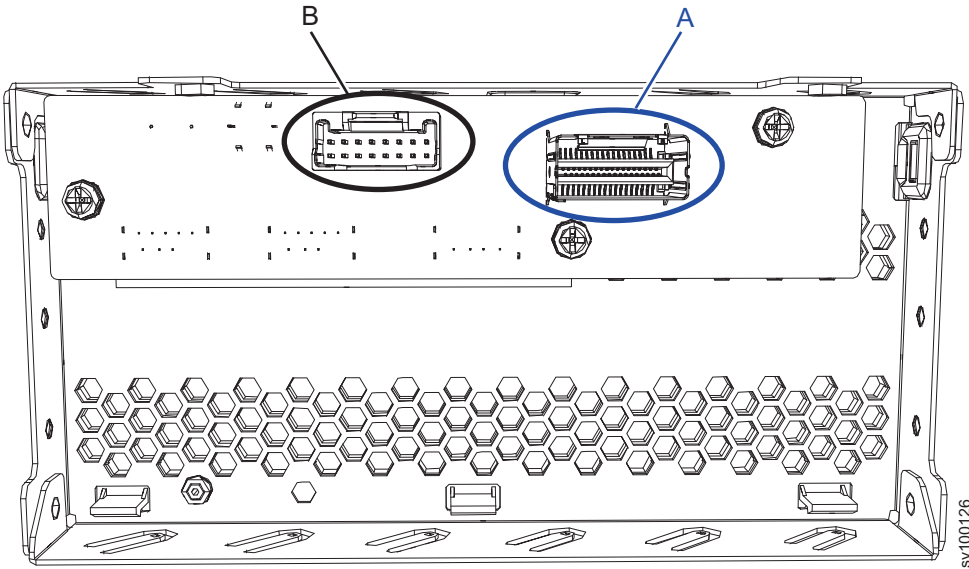

Figure 168. Cable connectors on the back of the operator-information panel
3. Gently remove each cable from the connectors on the rear of the operator-information panel (**A** and **B**), as shown in Figure 168 on page 201.